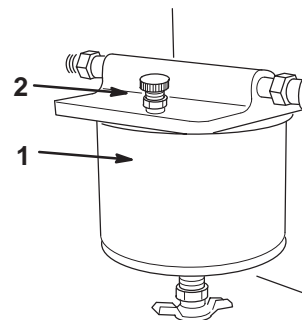

Figure 31
3. Open the bleed screw on top of the fuel filter to fill the bowl with fuel (Fig. 31).